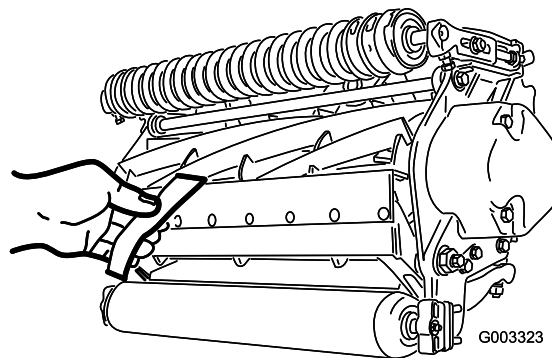

Figure 13
10. Test the cutting performance by inserting a long strip of cutting performance paper (Toro Part No. 125-5610) between reel and bedknife, perpendicular to the bedknife (Figure 13). Slowly rotate the reel forward; it should cut the paper.